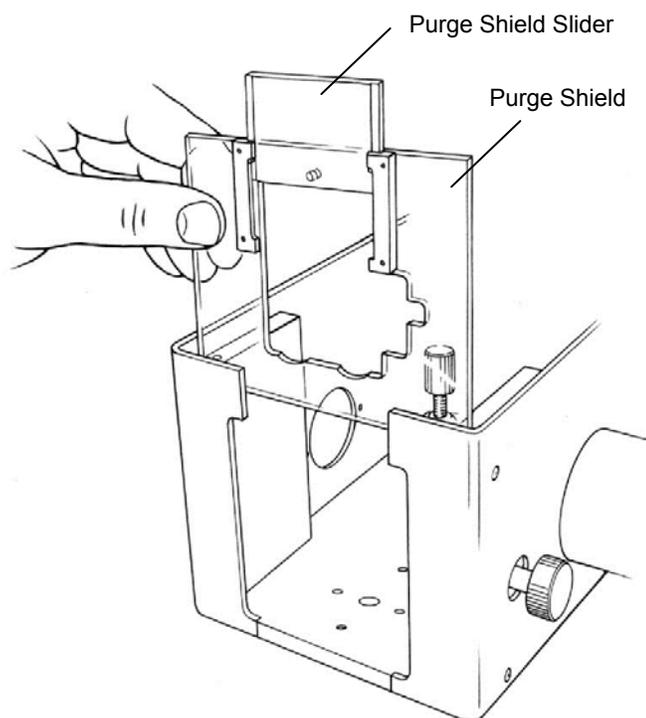

Figure 19 • Removing the Heating Cartridge
- Slide the purge shield into the Praying Mantis, directly behind the front of the accessory, as shown in Figure 19.